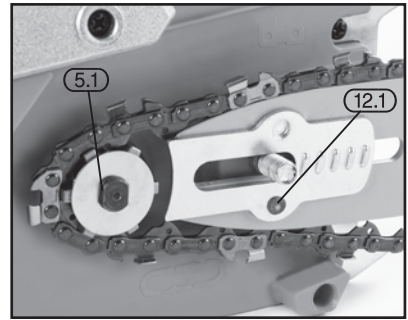

FIG.4
8.5 ATTACHING/ADJUSTING GUIDE BAR AND CHAIN (FIGS.4 - 6):